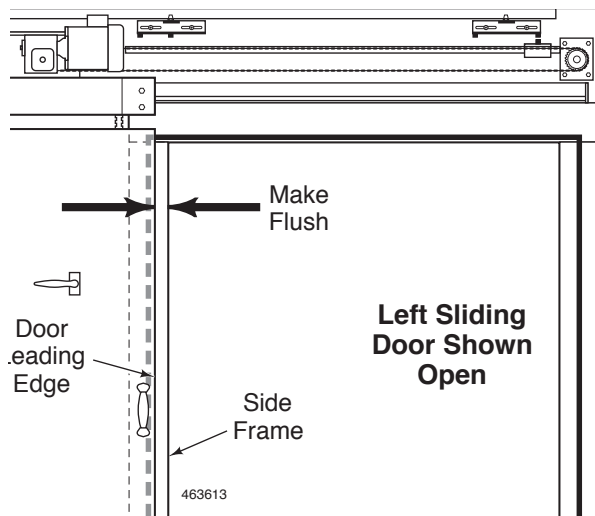

Figure 28
1. With the Door in the full Open position, measure the distance the Door must move to reach the desired Open stop location. See Figure 28.